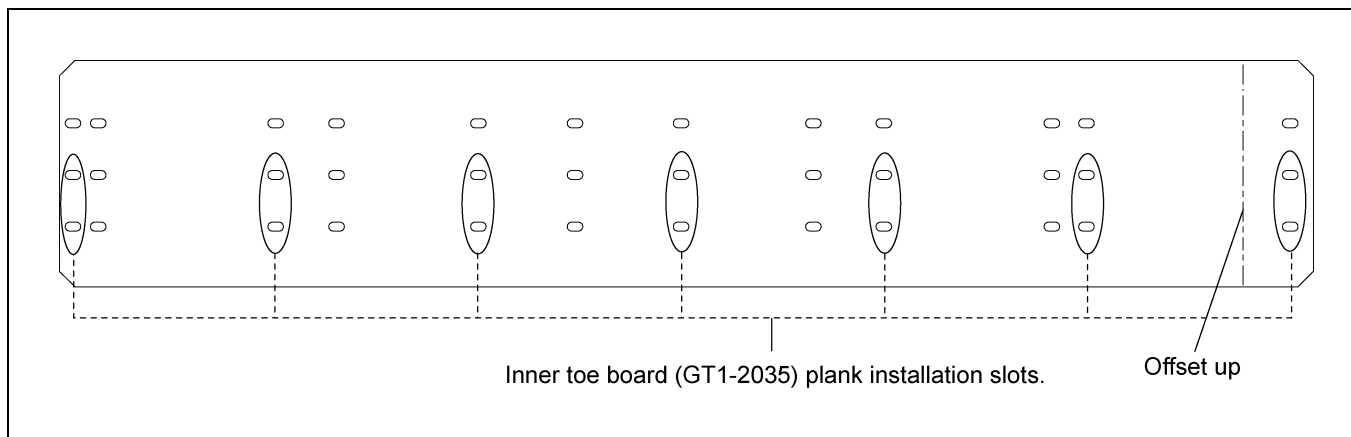

**Figure 6M** Inner Toe Board (GT1-2035) Plank Installation for Offset and Roof Hatch Catwalks
1. Install planks (GT1-2033) to bottom two (2) holes of the inner toe board (GT1-2035) using 3/8"-16 x 1" JS grade 8 or grade 8.2 bolts (S-7485) and 3/8"-16 ZN grade 5 nuts (S-968). (See Figure 6M.)